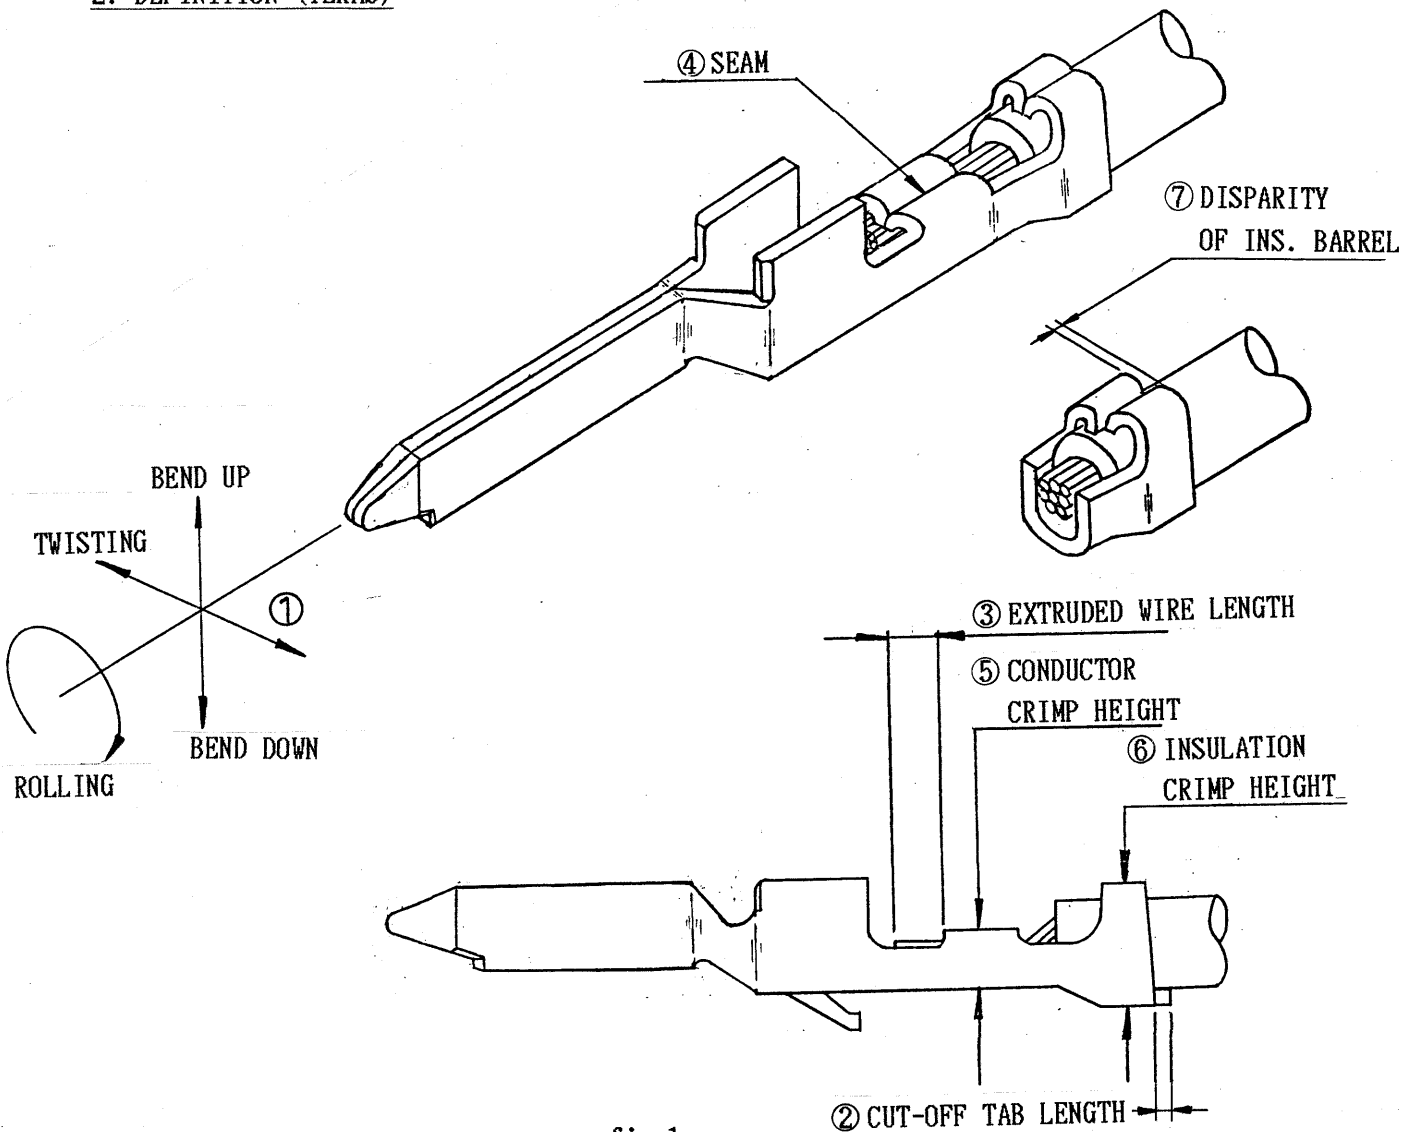

fig.1
4. CONDITIONS (⑤ and ⑥ of Fig. 1)